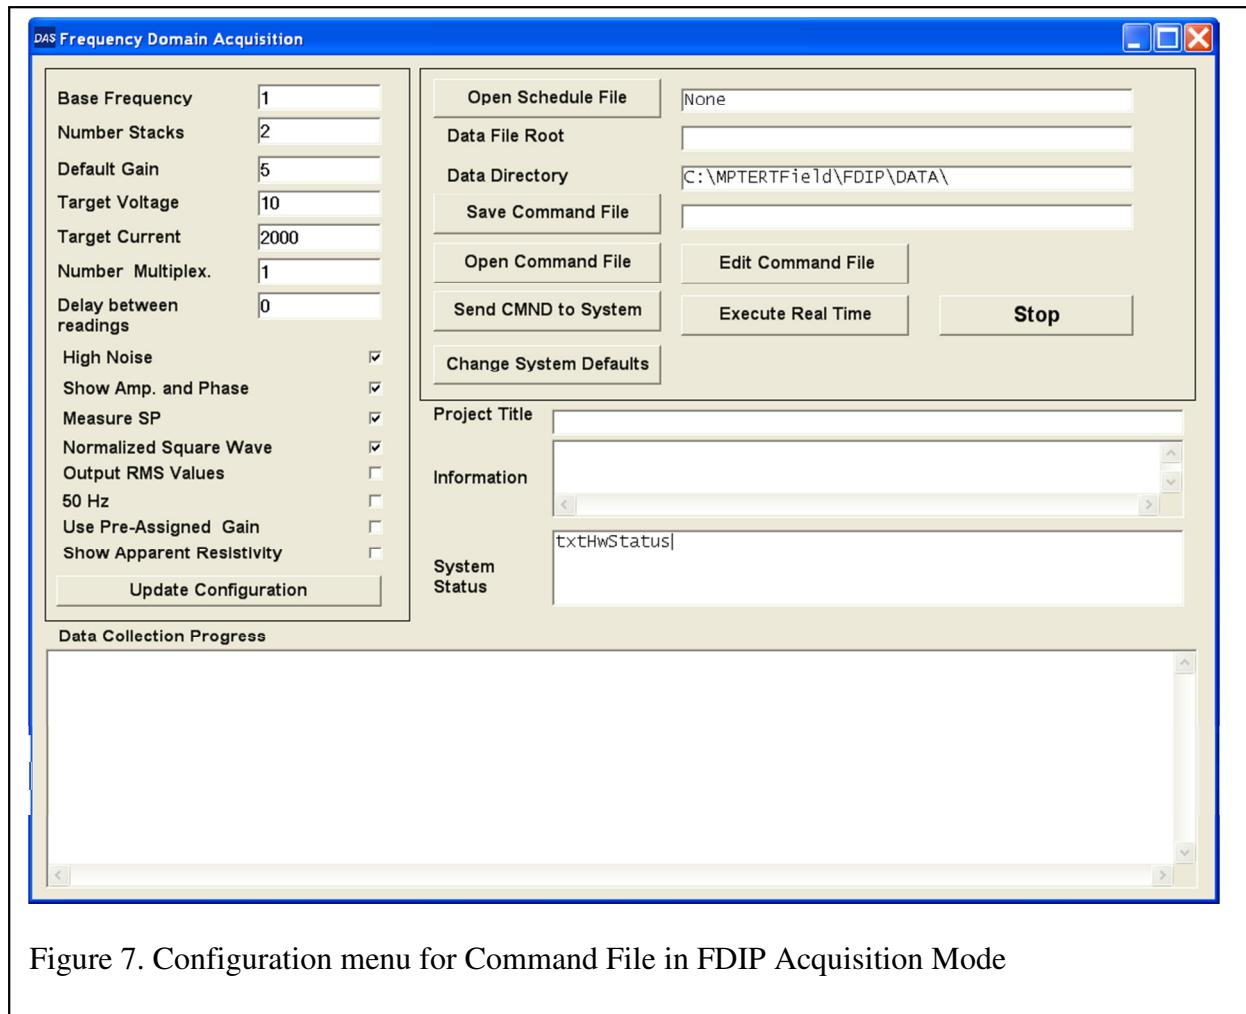

Figure 7. Configuration menu for Command File in FDIP Acquisition Mode
- 2) Select a data collection mode (FDIP, TDIP, Stream, SP or Spectral. Note: SP and Spectral files were not created for this quick start guide.). Figure 7 shows the Frequency Domain Acquisition window.
- 5) Once the edits are complete click on **Build** then click on **Save and Close Form** this will direct you back to the data collection window (Figure 7).